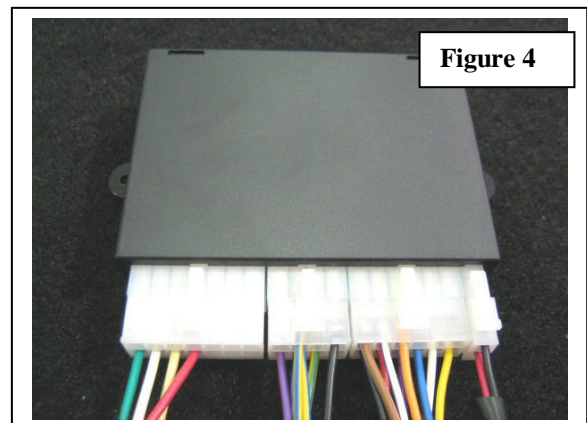

Figure 4
- 1.  Plug in the **Main Wiring Harness, Switch Harness, and Pedal Interface Harness** onto mating connectors of the **Cruise Control Module**. **Figure 4**